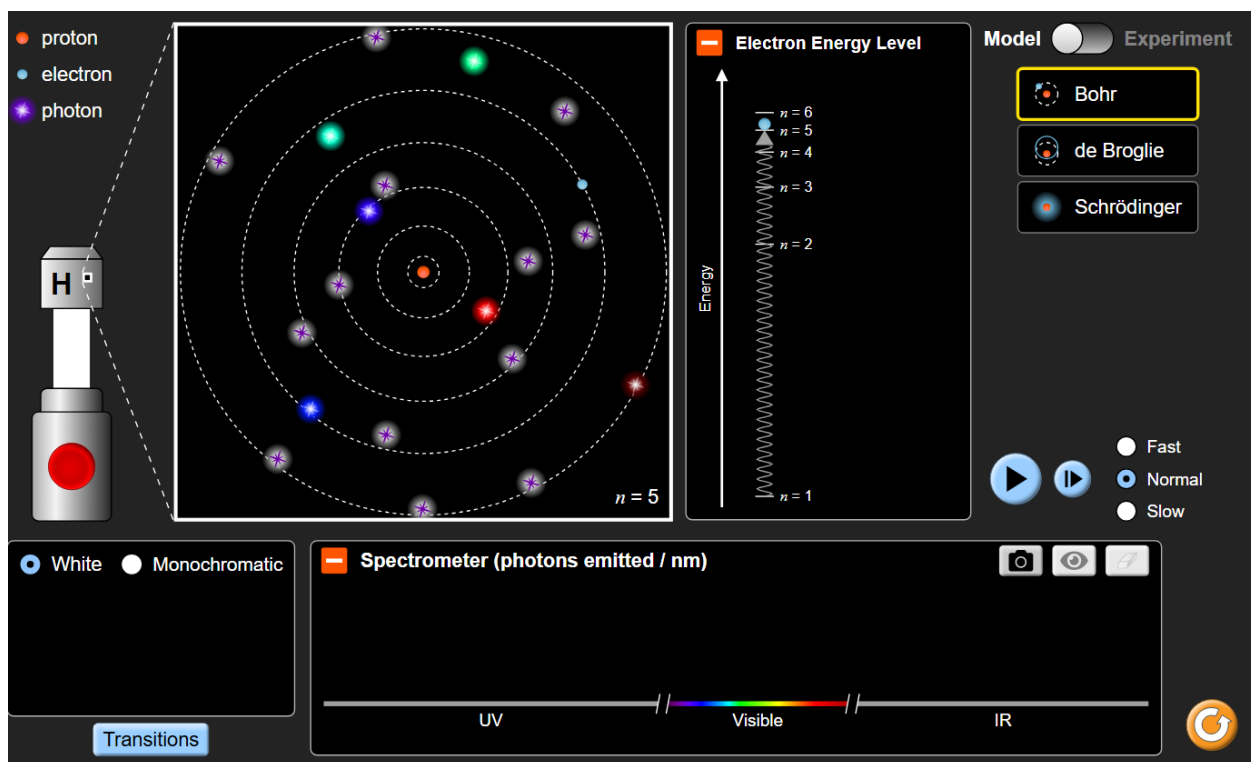

Fig. 14.08: Electron in Orbit 5
6. If it gains enough energy to go to higher level, the electron may be seen to be at any higher energy level namely $n = 2$ or $n = 3$ or $n = 4$ or $n = 5$ or $n = 6$. In this screenshot (Fig. 14.08) we observe that electron has gone to the higher energy level $n = 5$.